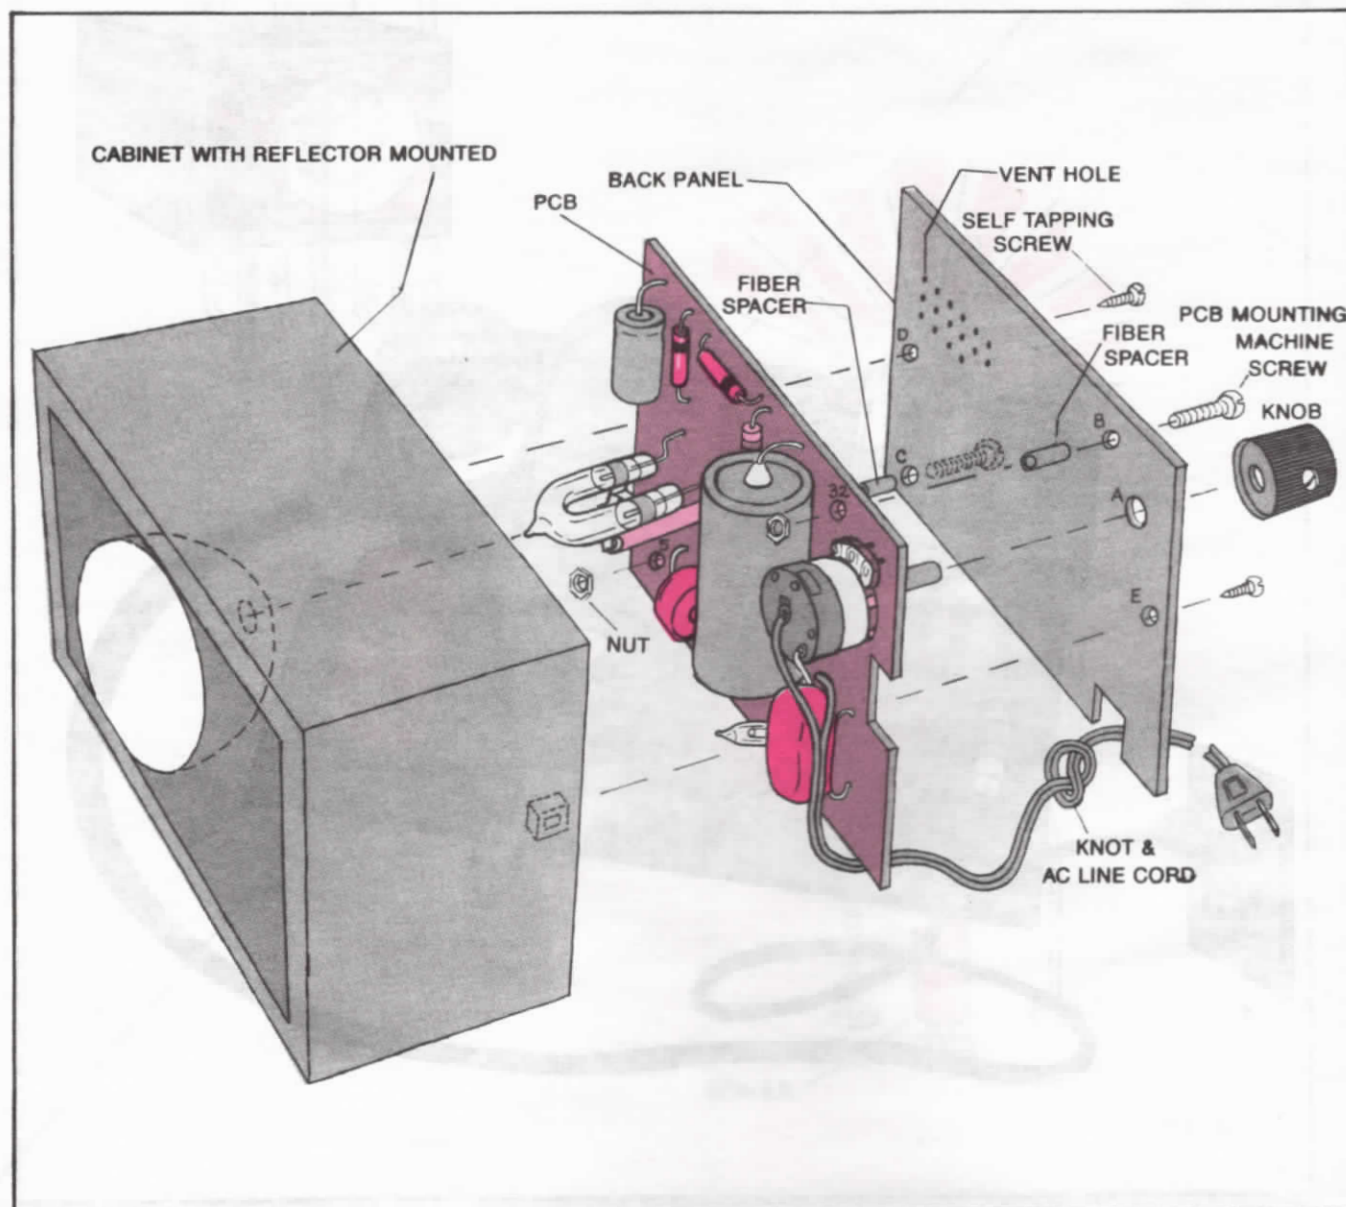

FIG. 45
1. Insert the two round-headed machine screws through holes B and C of the rear panel as shown in Figure 45. Then, place the two $\frac{3}{16}$ -inch fiber spacers over the threaded portion of the machine screws.
2. Insert the metal shaft of the pulse control potentiometer through the hole in the rear panel labeled "A" in Figure 45. Carefully align the two machine screws with holes 5 and 32 of the PCB and insert.
6. With the back panel assembly housed in the cabinet, use the two self-tapping screws and insert them through holes D and E. (Refer to Figure 45.) Secure the back panel to the cabinet.